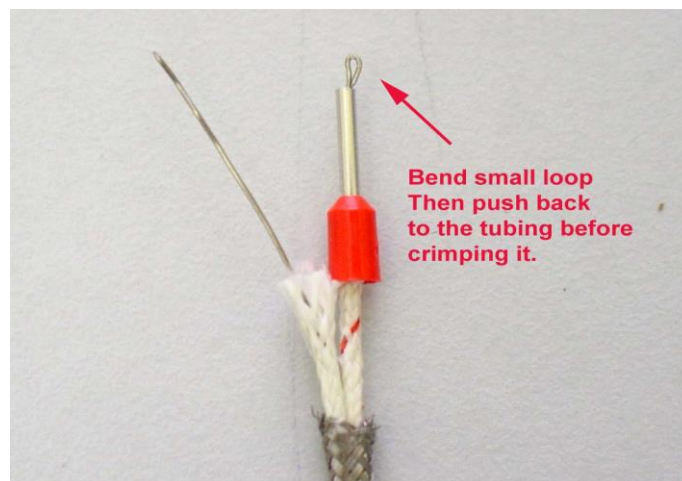

Figure 2. Bend a loop at the tip for wires less than 25 AWG before crimping
- 3) If the sensor wire is less than 25 AWG (very thin) and single conductor, strip the insulation by 3/4" (20 mm). Insert the wire to the tube type terminal. Then bend a loop at the tip of wire and push it back to the tube. This small hook will prevent the thin wire from being pulled out after crimping (see figure 2 below).